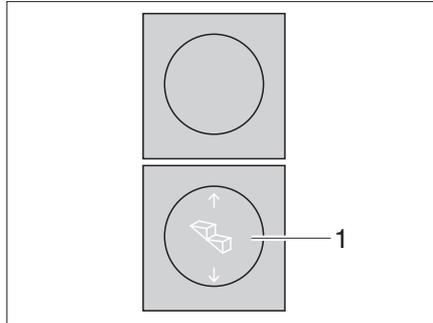

Fig. 1 Operating switch entrance step
- ▶ Press the rocker switch (Fig. 1,1) down until the entrance step has extended completely.
- ▶ Press the rocker switch (Fig. 1,1) up until the entrance step has retracted completely.